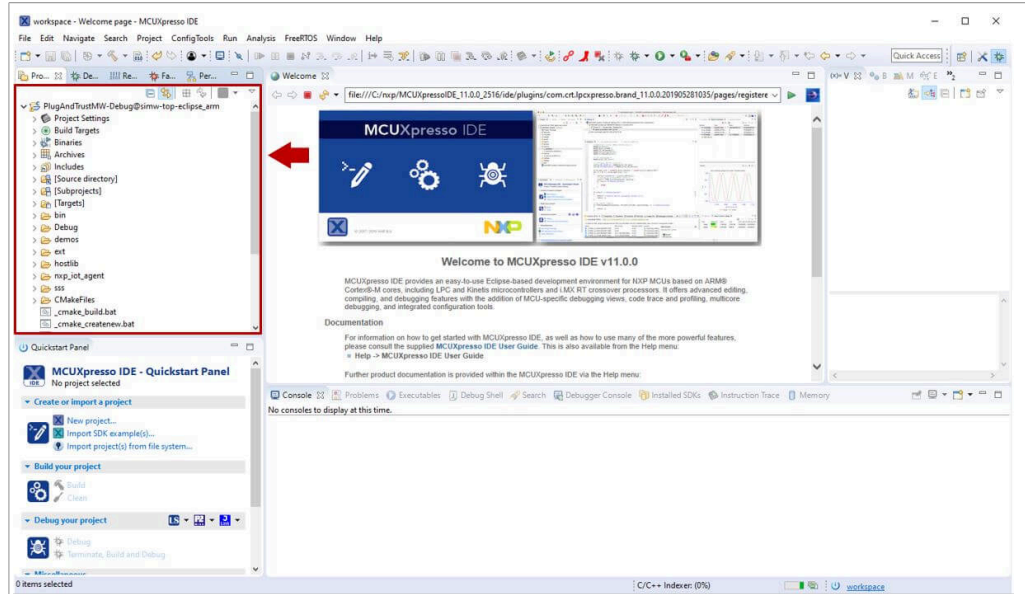

Figure 37. Plug & Trust middleware imported in workspace
- 5. The *PlugAndTrustMW* project should now be imported in your workspace as shown in Figure 37: